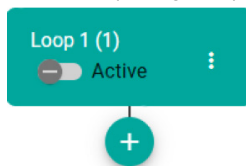

Fig. 7-4: Speaker circuit *Loop 1 (1)* in the INTRON-X Service Tool (Example)
- ▶ The speaker circuit is created (→ Fig. 7-4).